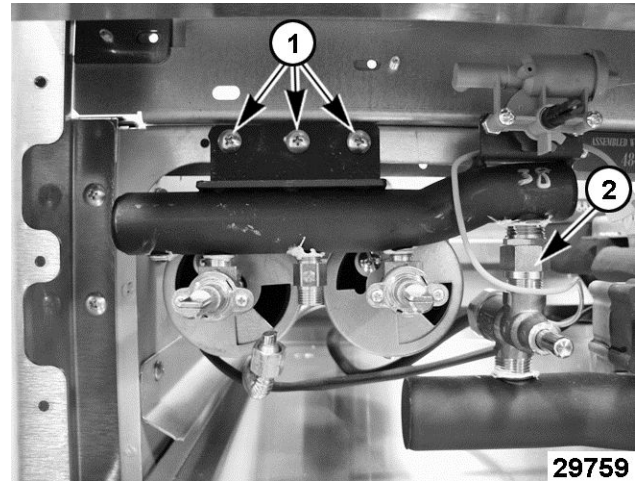

Fig. 65
8. Remove gas manifold from frame (1, Fig. 65).
9. Disconnect safety valve compression nut (2, Fig. 65) from tube adapter on gas manifold then remove safety valve from gas manifold.